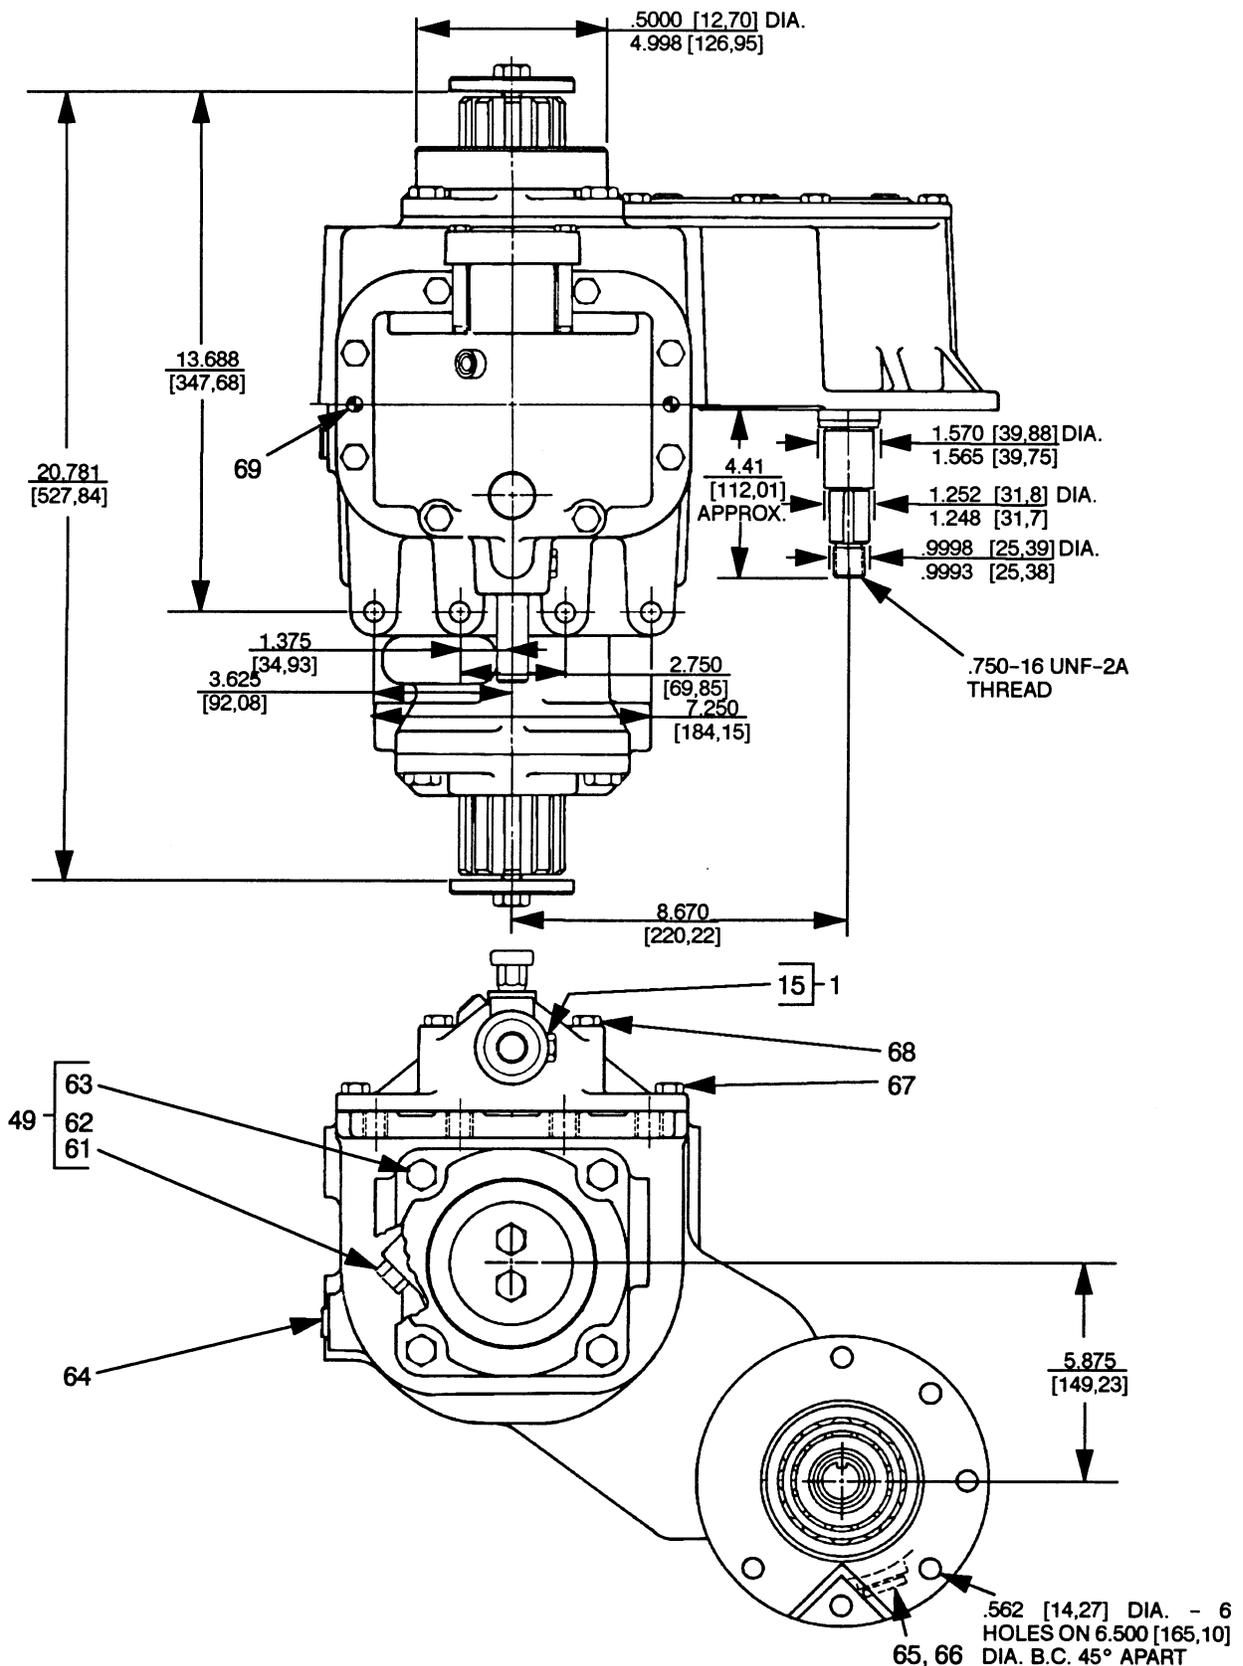

Figure 2A. 24571-027 Gearbox Assembly (Cont'd)
The presence of gearbox lubricant in the seal cavity behind the stationary element indicates failure of the gearbox oil seal (14). Before attempting to remove the seal, remove the gearbox drain plug and gasket (65 and 66, Figure 2A) and drain the gearbox lubricant. Reinstall the drain plug and gasket.